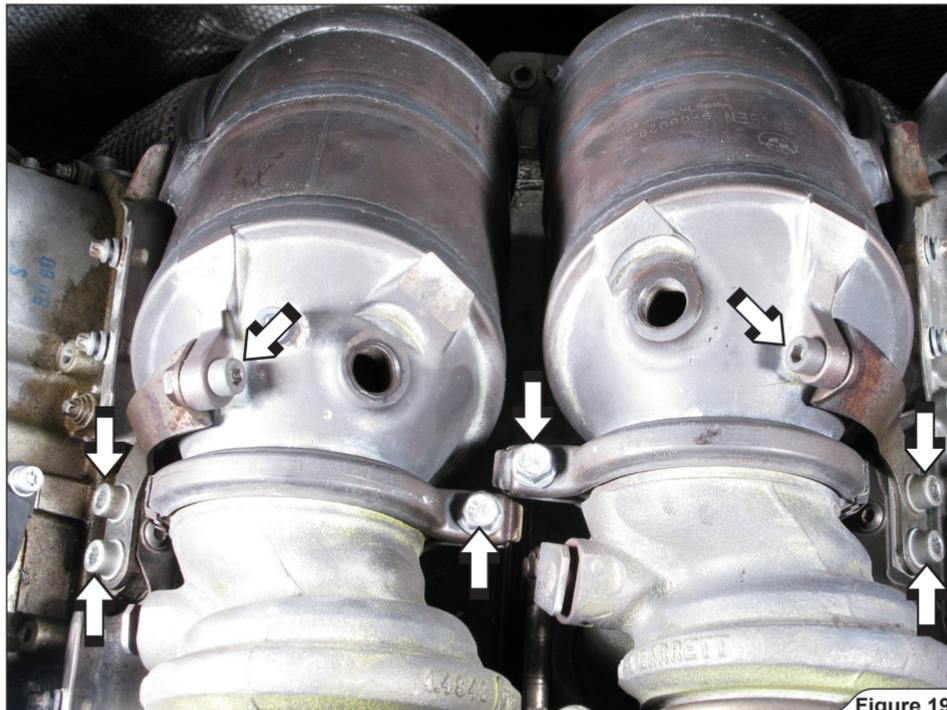

Figure 19
20. **For optional Down Pipes only:** unscrew marked down pipe brackets' bolts (Figure 19).
21. Unscrew and remove the two marked spherical clamps (Figure 19).